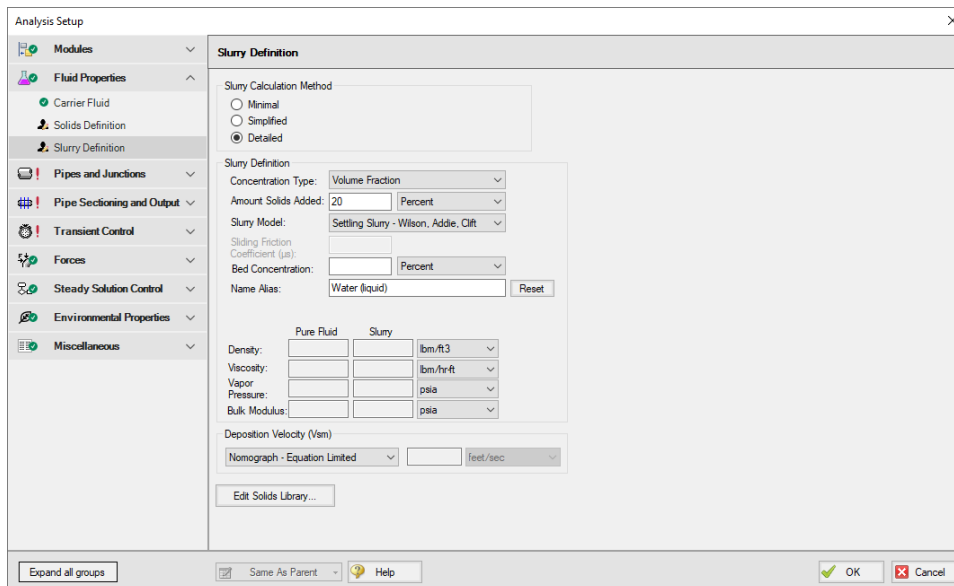

Figure 2: Slurry Definition panel
2. Slurry Definition panel (Figure 2)